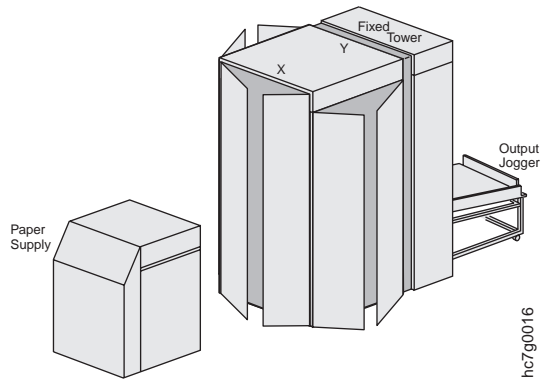

Figure 337. Right Side View of the InfoPrint Color 100
3. Open the doors of the X and Y towers on both sides of the machine and the front access doors (behind the paper supply), as shown in Figure 337 on page 342.